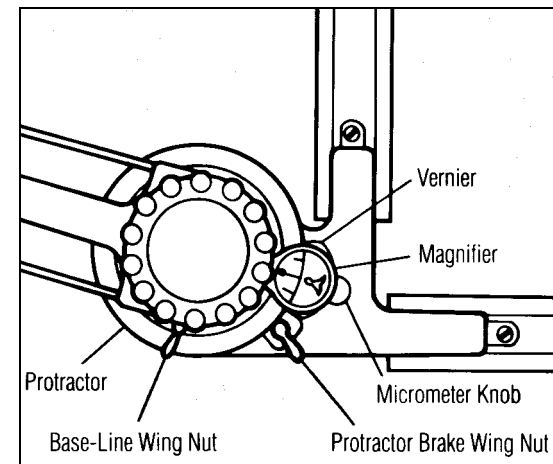

Fig 17
This machine duplicates on a map the operations of a transit in the field, the edge of the scale taking the place of the line of collimation of the telescope. The motion of the scale arm relative to the protractor represents the "upper motion". The motion of the protractor relative to the pulley represents the "lower motion". The "upper motion" is clamped, or released, by the protractor brake wing nut (Fig. 17). Similarly, the "lower motion" is clamped, or released, by the base-line wing nut.
- Release the protractor brake wing nut (Fig. 17) and tighten the base-line wing nut.
Caution. Never force the micrometer screw (Fig. 17). If the protractor brake wing nut is tight, the parts of the head cannot move, and forcing the micrometer screw may result in some injury to the machine.